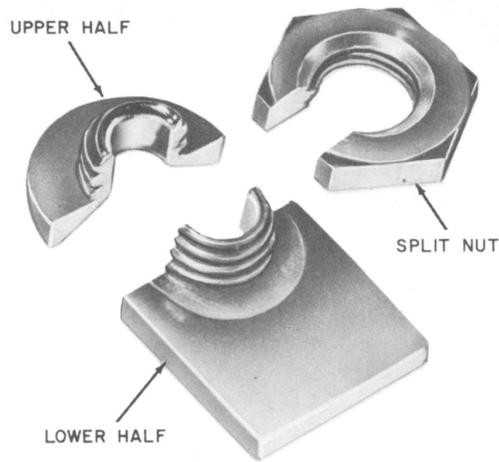

Fig. 5—P-14E894 (MD) Grommet Assembly
*Note:* Early production 751-type sets were equipped with a three piece metal grommet assembly (Fig. 5). It is recommended that the metal grommet assembly be replaced when any maintenance is performed on these sets. (See Table B, Fig. 5 and 6.)